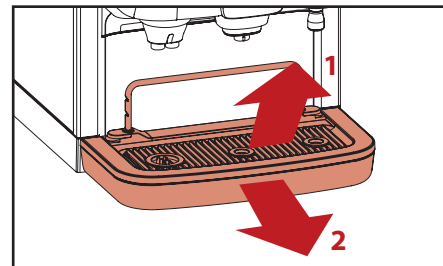

Fig. 5.3 - Remove cup & drip trays
2. Remove the cup tray by lifting it from the bar (fig 5.3, 1).
3. Remove the drip tray (fig 5.3, 2).